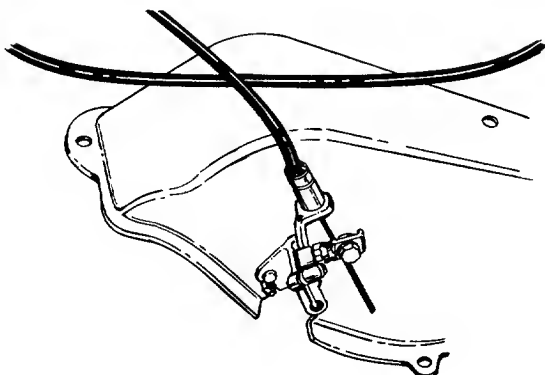

FIGURE 9.
4. Push the mechanism on the end of the cable all the way onto the pin and hub assembly. Tighten the locking bolt while holding the mechanism firmly in place. See figure 9.